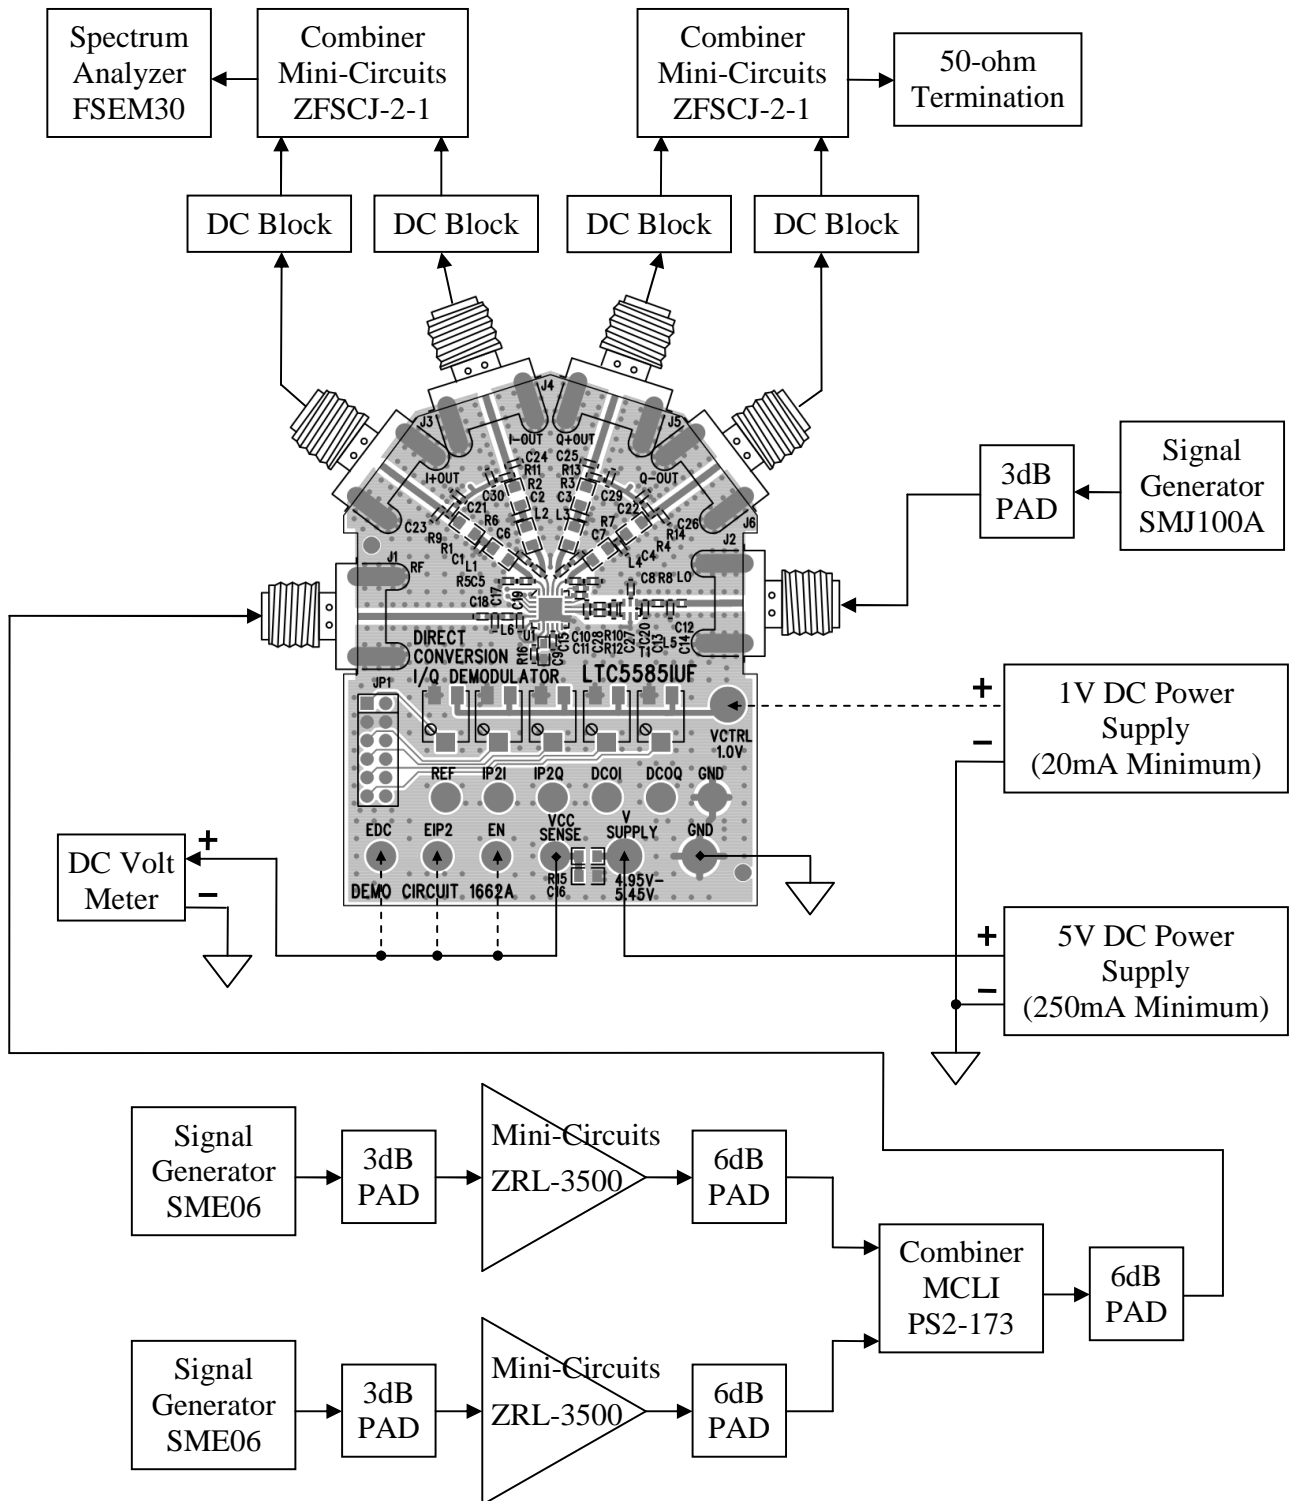

Figure 1. Measurement Setup
1. Connect test equipments as shown in Figure 1 with all signal sources and DC supplies off.